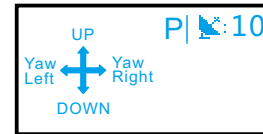

Figure 11-2: Remote Controller Wake-up Mode
- When the remote controller is in sleep mode,press and hold the "Mode Switch Key"for 1.5 seconds to wake up the remote controller.The screen will display as shown in Figure 11-2,and you can then perform other operations normally.